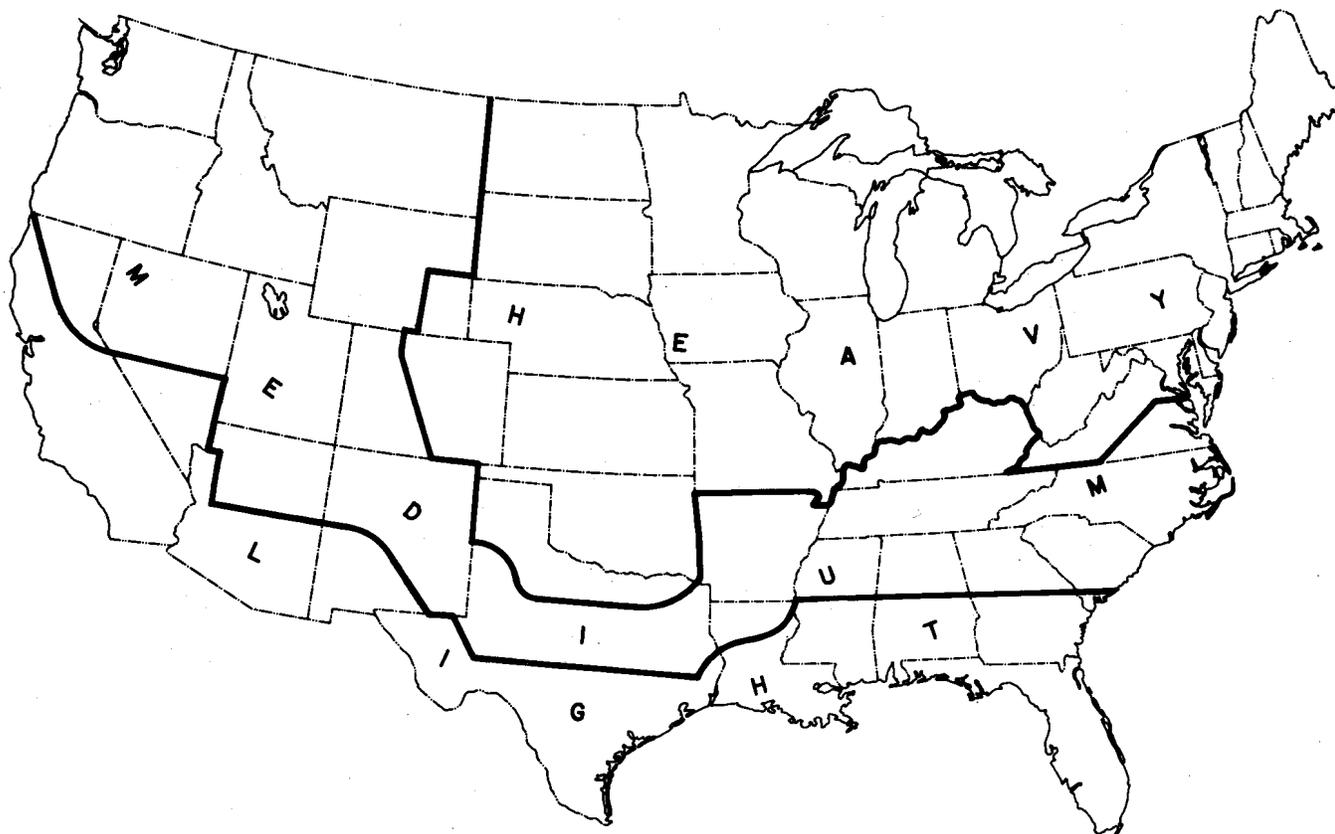

Fig. 1—Storm Loading Areas
- (a) **Storm Loading Areas:** Figure 1 identifies the three storm loading areas based upon studies made from records of wire using companies and data from the United States Weather Bureau. The frequency, severity, and effects of ice and windstorms in various sections of the country were the elements considered in establishing the loading area zones. As a result of the weather differences, allowances must be made for the stretching of conductors in their respective loading zones when placing a drop wire.